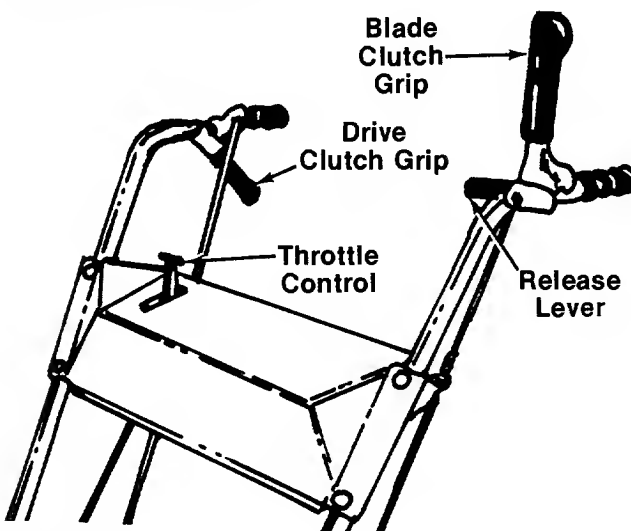

FIGURE 12.
The throttle control is located on the right hand side of handle panel. It controls engine speed. See figure 12.
The drive clutch grip is located on the right handle of the mower. Squeezing the clutch grip engages the drive pinions into the wheels. Release the clutch handle and the forward motion of the mower stops. You must release the clutch handle to make a turn. See figure 12.
The blade clutch grip is located on the left handle. Push the release lever to free the blade clutch grip, then squeeze the clutch grip against the handle to engage the blade. Release the grip to stop the blade from turning. See figure 12.
1. Be certain both clutch grips are in the disengaged position (released). See figure 12.
2. Move the throttle control to the "CHECK" position. See figure 12.